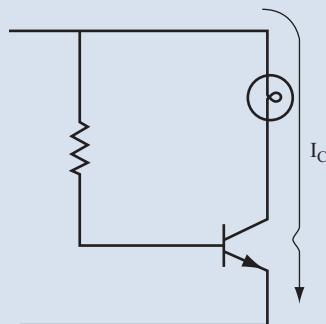

FIGURE 4.2
- B. See Figure 4.2. In this figure, note that the resistor symbol has been replaced by the symbol for an incandescent lamp.